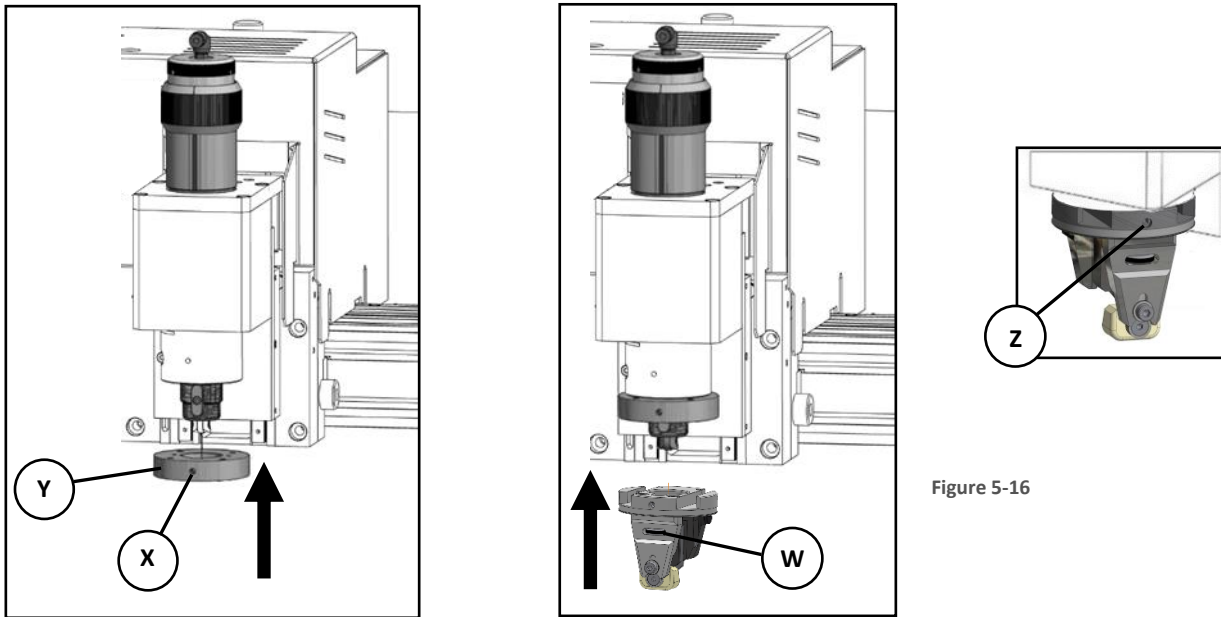

Figure 5-16
To mounting a head (W) on the VersaTool, insert it under magnet holder and when it adhere to the flange, tighten the screw (Z) (Figure 5-16).
- Loosen the screw (Z) (Figure 5-16).
- Hold the diapason (1) by its handle and push it into the slot located at the top part of the head. Holding the tool with the other hand, give it a slight knock (2) to release the head.
- This will detach the interchangeable head from the magnets rack, and it will stay attached to the diapason (3)